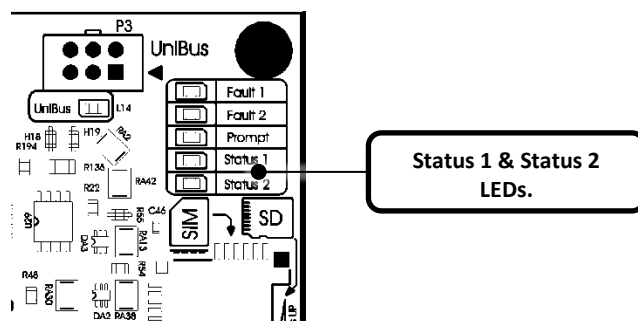

Figure 1
2. Wait for the controller to start. When the controller is up and running, the Status 1 and Status 2 LEDs will flash in an alternating pattern (*Figure 1*).
2. Wait for the controller to start. When the controller is up and running, the Status 1 and Status 2 LEDs will flash in an alternating pattern (*Figure 1 above*).